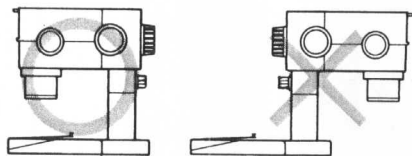

Fig. 1
- ① Mount the zoom microscope body on the illumination base in front of the pillar as shown in Fig. 1, left (marked with a circle); to prevent the microscope body from overturning. (Fig. 1)